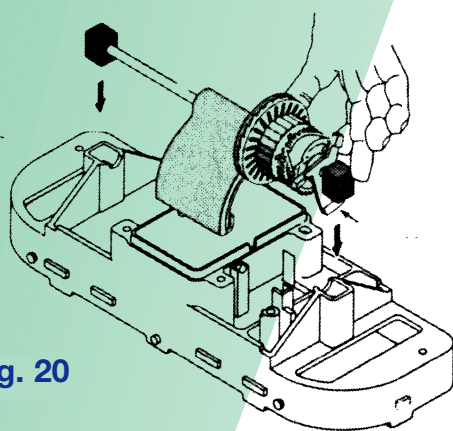

Fig. 20
3. Install the long gear shaft and end blocks in the cleaning head with the large arm of the cam down (see Figure 20).